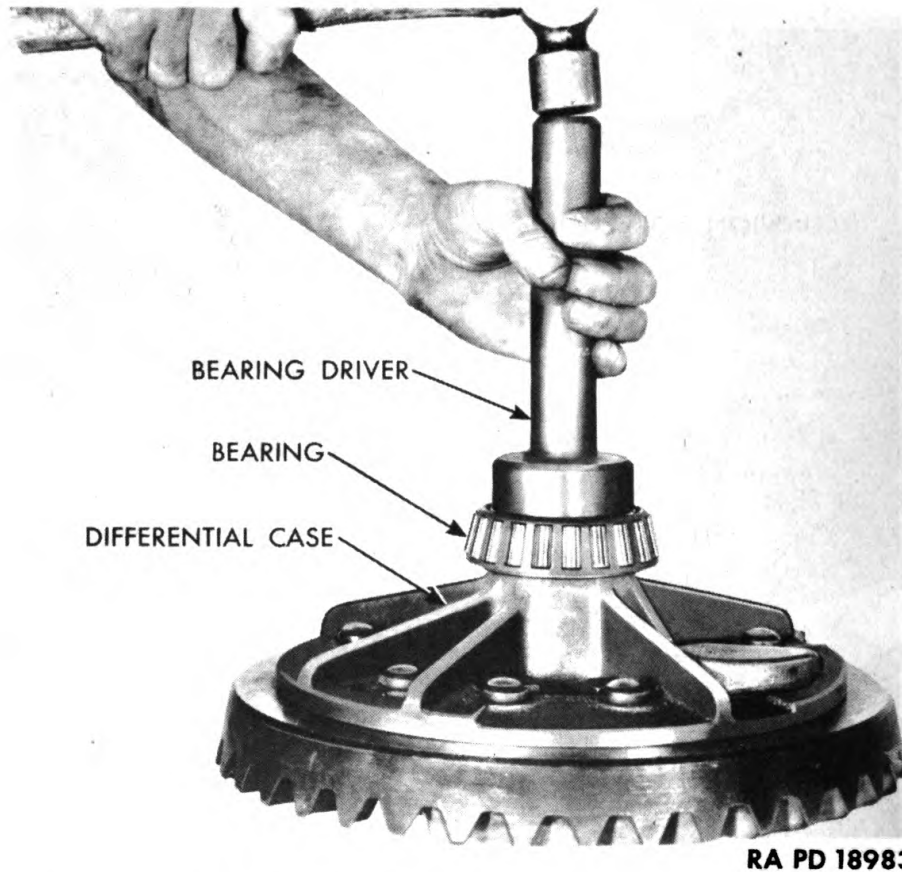

Figure 61 — Installing Differential Bearing
(3) **INSTALL DIFFERENTIAL SIDE BEARINGS.** Install differential bearing cones on differential case hubs (fig. 61). Install oil scoop and retaining cap screw.